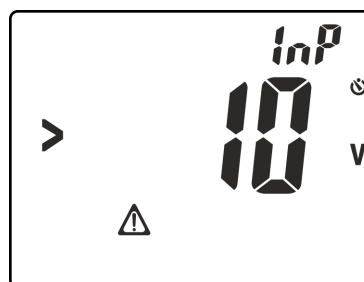

Fig. 17: Presence of voltage on the input terminals
7. Press key **GO/HOLD** to activate the test. The screen in Fig. 17 may appear on the display to signal the presence of a voltage **>10V** found on the input terminals, preventing the test to be carried out.